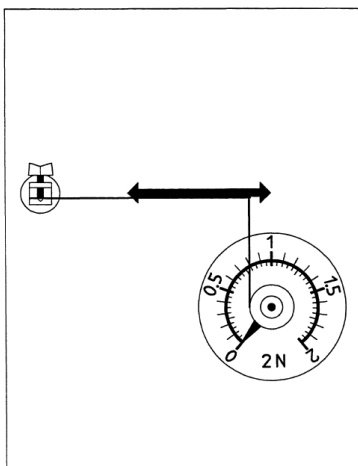

Figure 1
- Place two pointers so that their side edges are at the same height as the horizontal leaf spring (fig. 1).